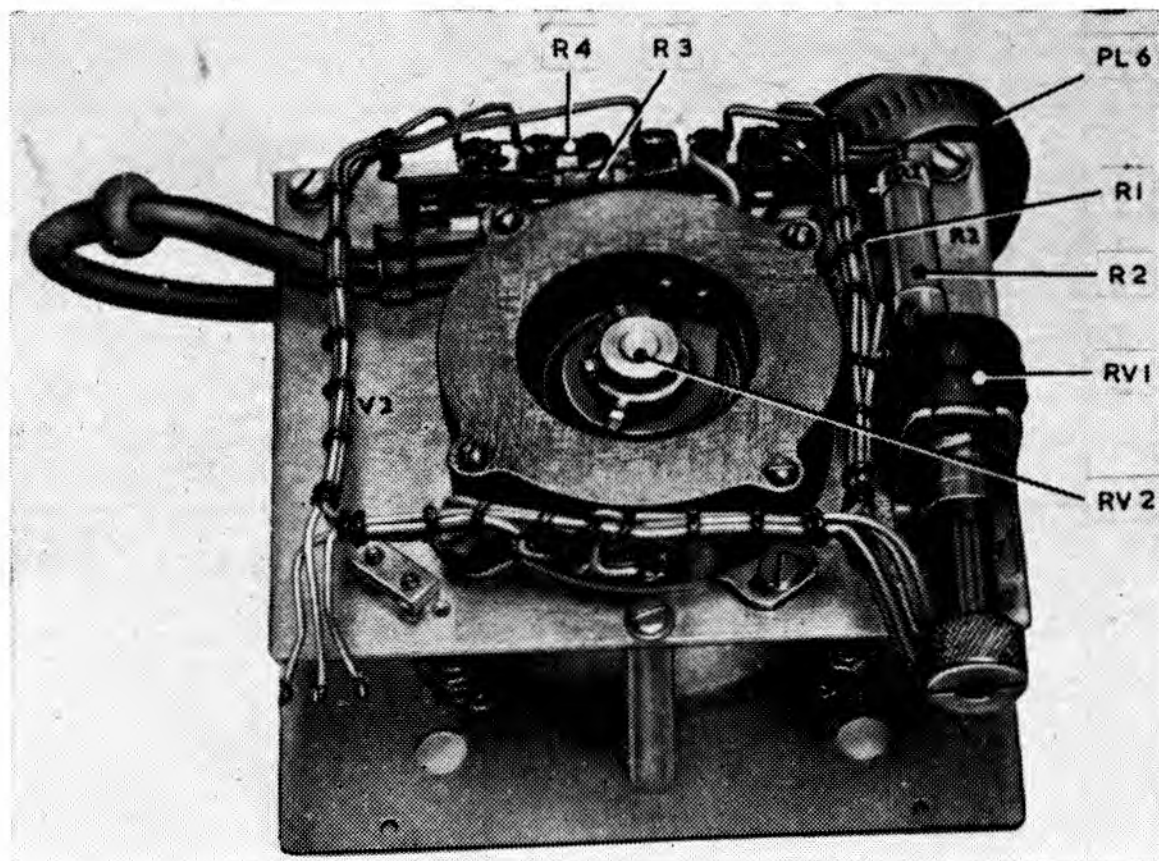
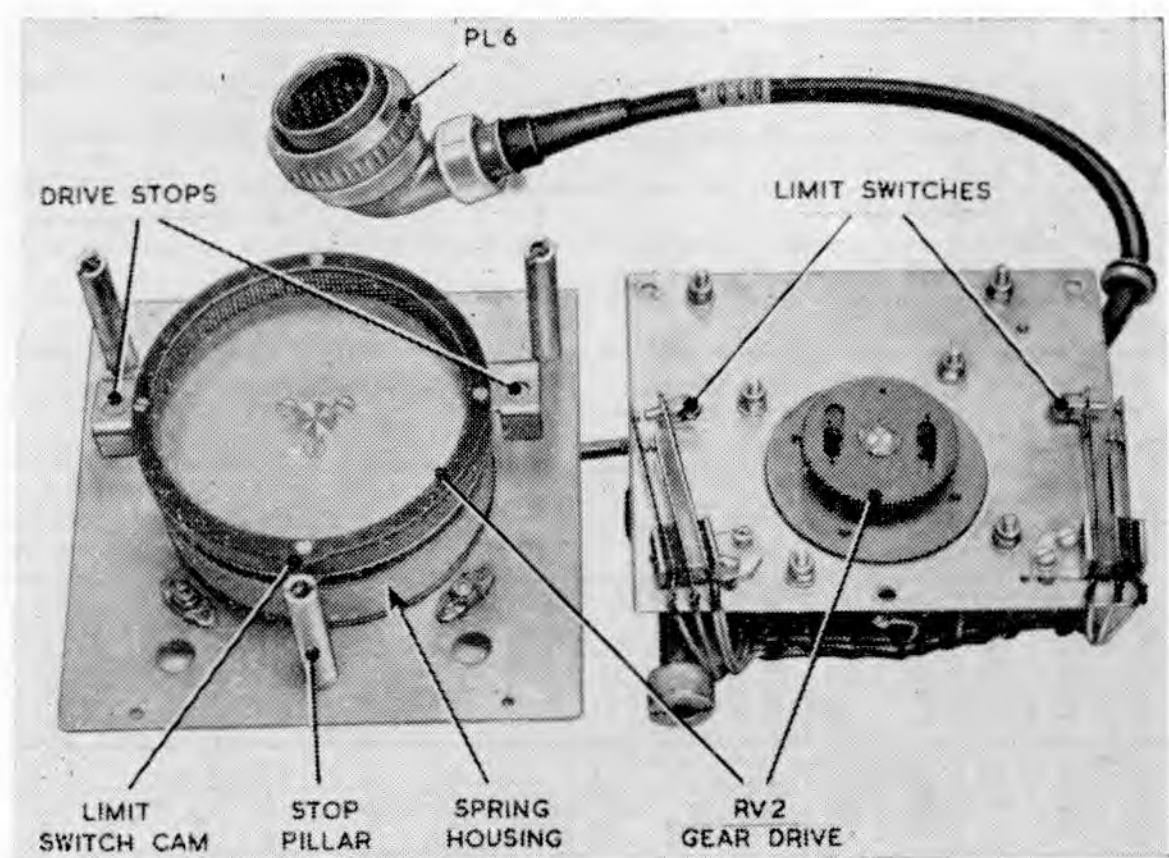
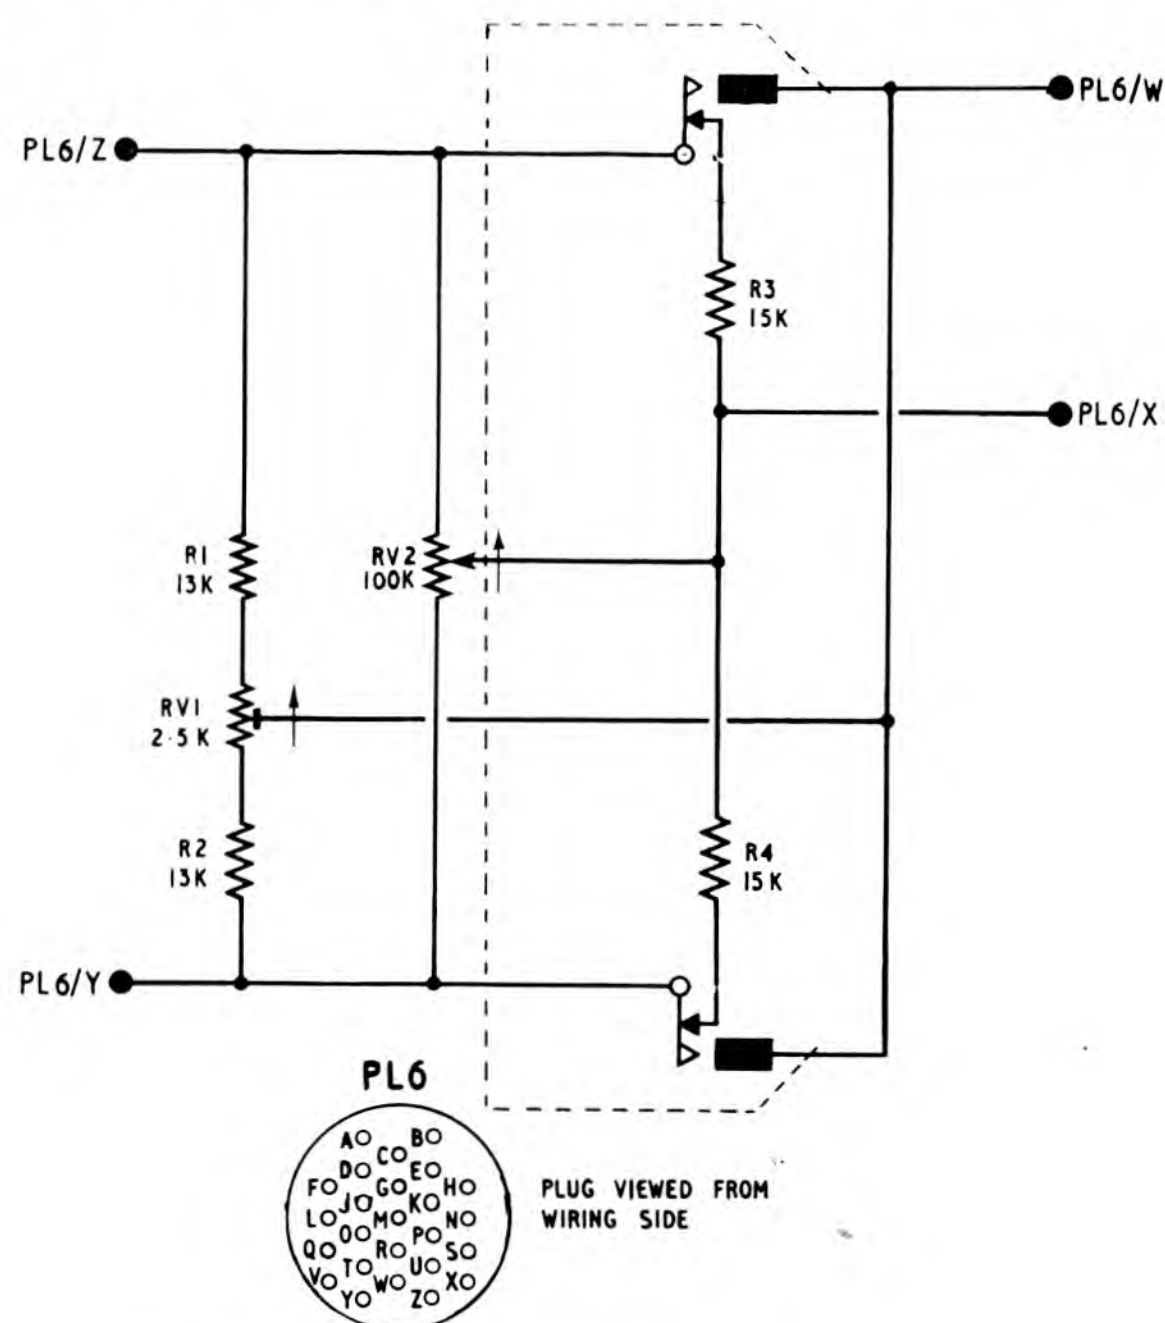

Fig. 2. Control unit (aerial velocity) Type 4342 rear view with cover removed
Fig. 3. Control unit Type 4342—dismantled view
Fig. 4. Control unit Type 4342—circuit
10. This unit (Stores Ref. 10L/16215) is mounted on the right-hand side of those desks which make provision for controlling a Type 13, height-finder, aerial head. The unit is shown in the illustration of panel (control desk) Type 896. A rear view of a unit with the cover removed is shown in fig. 2 and a dismantled view, showing the gearing and cam switches, is given in fig. 3. The circuit diagram is given in fig. 4.
11. *Mechanical description.* The front part of the unit, seen on the left of fig. 3, contains a spring mechanism and a locking device, which are unlikely to develop faults and are not, therefore, shown dismantled. The spring mechanism causes the laying control to return freely to its central position when released from clockwise or counter-clockwise rotation. To prevent the control from being turned too far in either direction, stops project from the periphery of the annular gear driving the potentiometer spindle. The control may be locked within a few degrees of the maximum clockwise or counter-clockwise position by depressing the locking button. To release the button, turn the knob slightly clockwise, or counter-clockwise, as appropriate to take the load off it.
13. *Electrical function.* The external connections to the unit (PL6/W, X, Y and Z in fig. 4) are connected to the unit 07 socket SK6, feeding the plug PL5 on the console input panel (unit 14 in fig. 1). From here Y and Z are connected to the radar Type 13 turning gear via selector unit Type 100, while W and X are connected to the relay unit (AZ. c/o) Type 192 in the RA306, which selects either the main or
36. The feed to the fuse panel, via PL2/U is applied to the RA338 (negative reference) to switch on the -500V reference to the RA305 (bulk power supply) and to the RA305 to operate the LT relay. The h.t. switching circuit, for operating the RA305 HT relay which supplies h.t. to the console and the associated trip line, are shown in fig. 3, Chap. 9 or fig. 2 of App. 1. The h.t. ON lamp LP2 lights when the h.t. circuit is completed, the -50V (or the -6.3V) returns on PL2/Y.
FOR CIRCUIT SEE FIG. 4